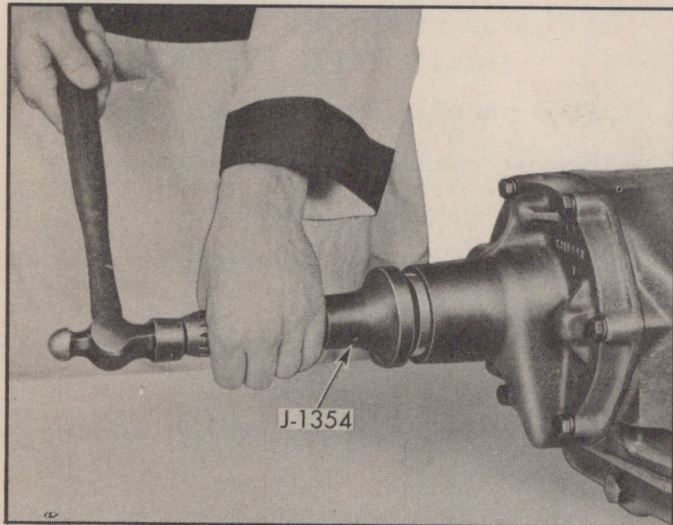

Fig. 88—Installing Rear Bearing Retainer Seal Using Tool J-1354
6. Install the new rear bearing retainer seal using tool J-1354 (Fig. 88).